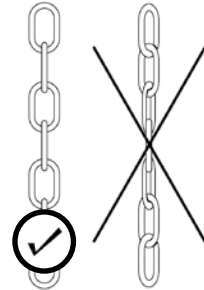

Figure 8
- The chain for emergency control should never be twisted, otherwise, failures in the operation of the emergency manual control unit may occur (fig. 8).